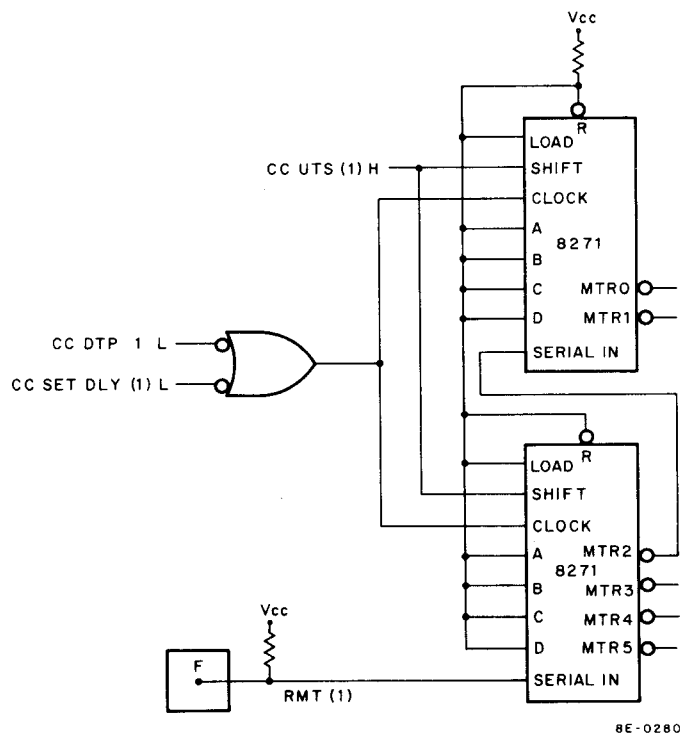

Figure 8-14 Mark Track Register
When SET DLY clears it also clears the Mark Track Register (Figure 8-14, Paragraph 8.11).
The Mark Track (MT) Register (Figure 8-14) receives serial data from the mark track (RMT) containing the mark track codes and outputs 6 bits of parallel data for transfer to the AC. The MT Register is made up of two 8271 ICs. (See Appendix A.8, Volume 1, for timing diagram pin locator and truth table). The 8271 IC is a 4-bit shift register that receives a parallel serial input and provides a parallel output. The parallel output is applied to the Data Register (Figure 8-16) for the transfer to the AC during an SDRC instruction.